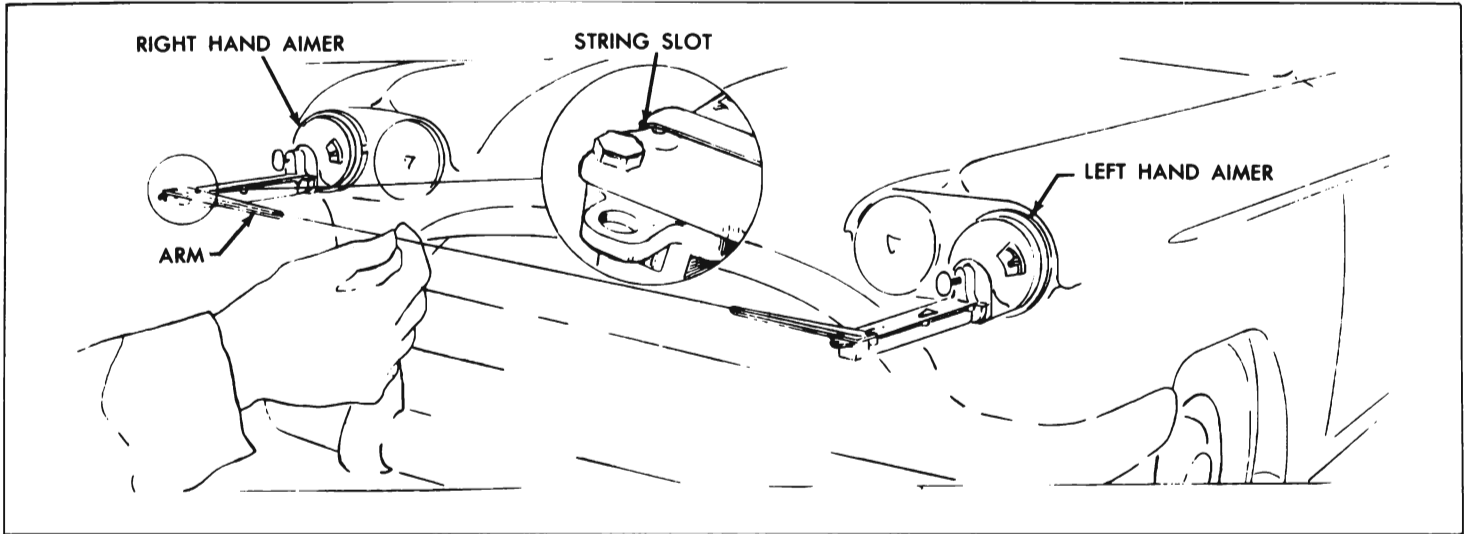

Figure 10-56—Positioning String
5. With aimers in place, position the knots on each end of the elastic string in the slots provided on both aimers. See Figure 10-56. Car doors must be closed and car rocked gently sideways to equalize springs, prior to checking and adjusting headlamps.